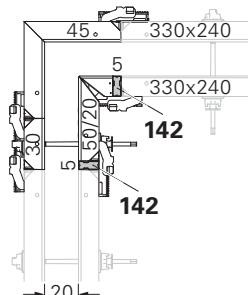

Fig. C1.03
- Fig. C1.03 + C1.05a + C1.05b